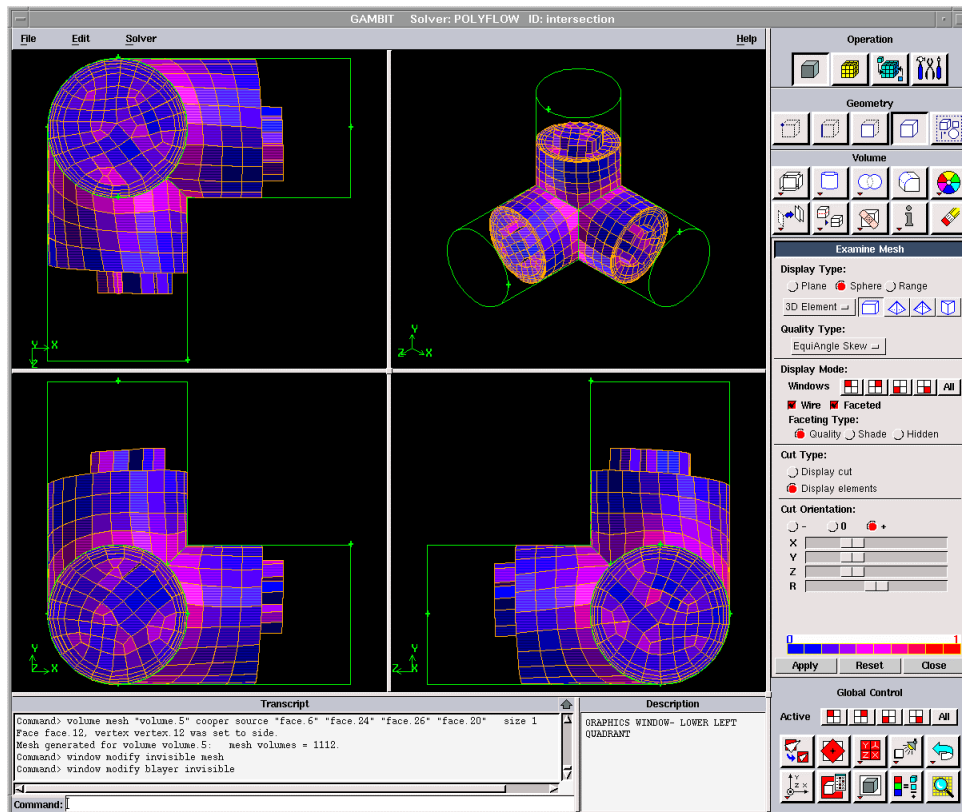

Figure 3-20: Spherical cut centered in the x , y , and z directions
- f) Move the **Y** and **Z** slider boxes to center the spherical cut in the y and z directions in the graphics window. The graphics window display is shown in Figure 3-20.